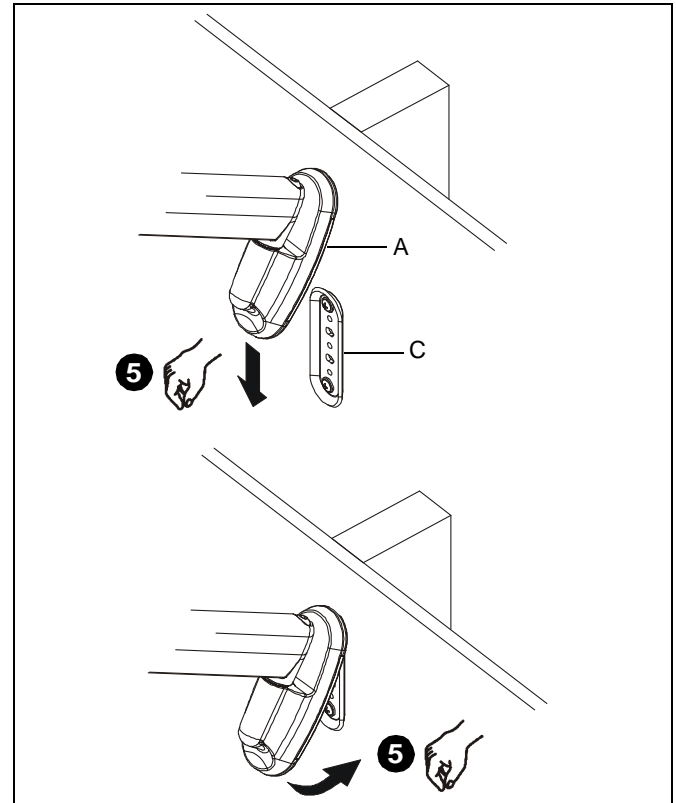

Figure 2
6. Insert top of mount (A) over lip on top of bracket (C) (See Figure 2). Swing mount (A) down flush against wall.